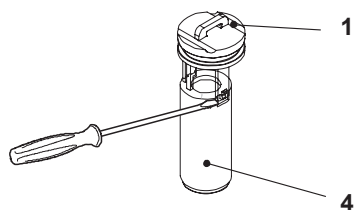

Figure 14.4
- 2 Separate the flow switch plug 1 from the body 4 (Figure 14.4) levering with a screwdriver one of the two hooks.